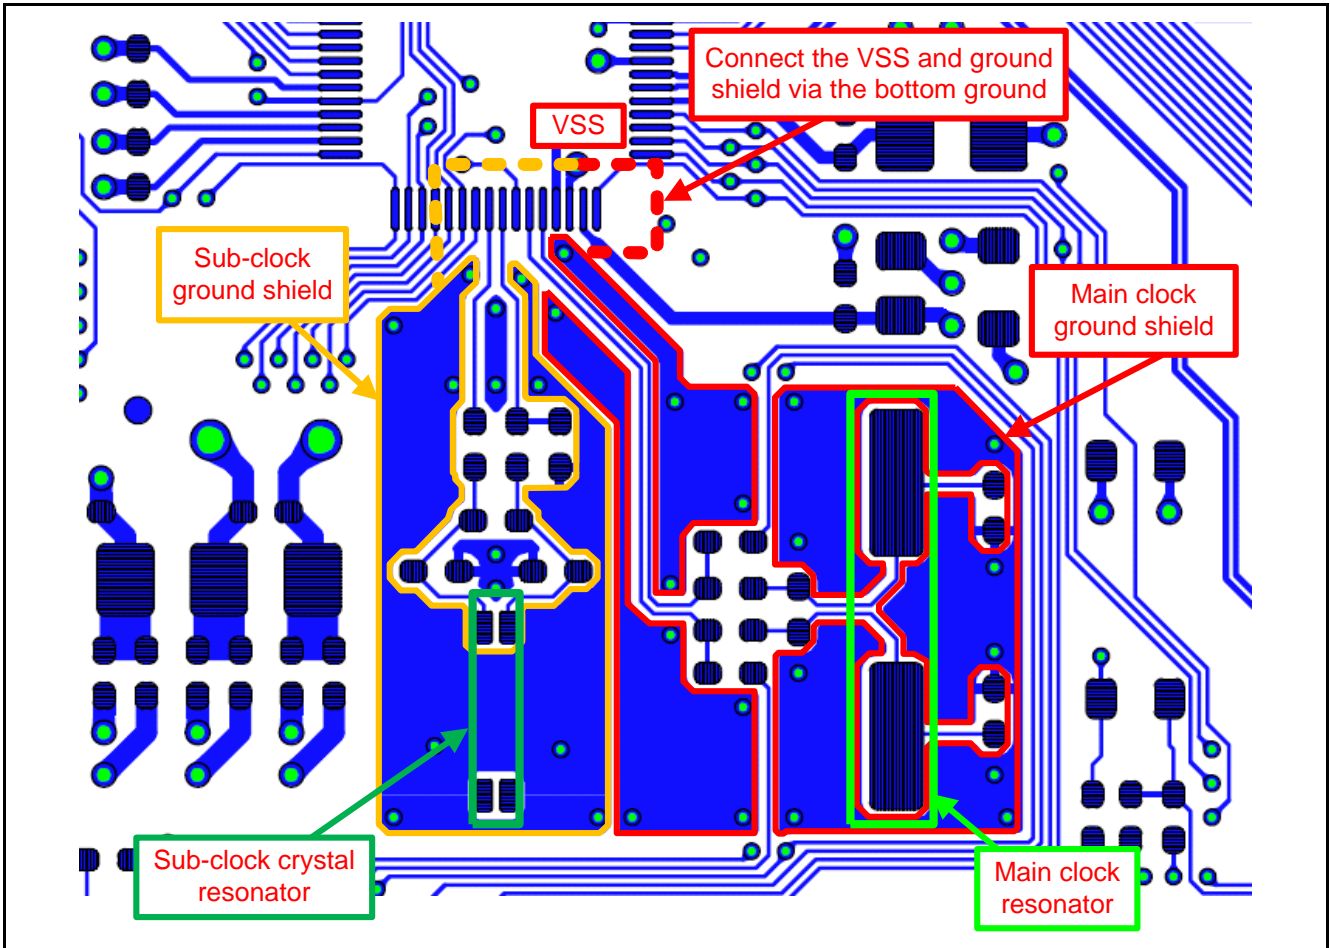

Figure 1.12 Trace Example When Shielding the Main Clock Resonator Wiring With a Ground
- ① describes points on wiring the main clock resonator. Figure 1.12 shows a trace example.
- ① Shield the main clock resonator wiring with a ground. Branch the ground shield of the main clock and the sub-clock near the VSS pin. Note that if the main clock ground shield is connected directly to the sub-clock ground shield, there is a possibility that noise from the main clock resonator may transfer through and affect the sub-clock.